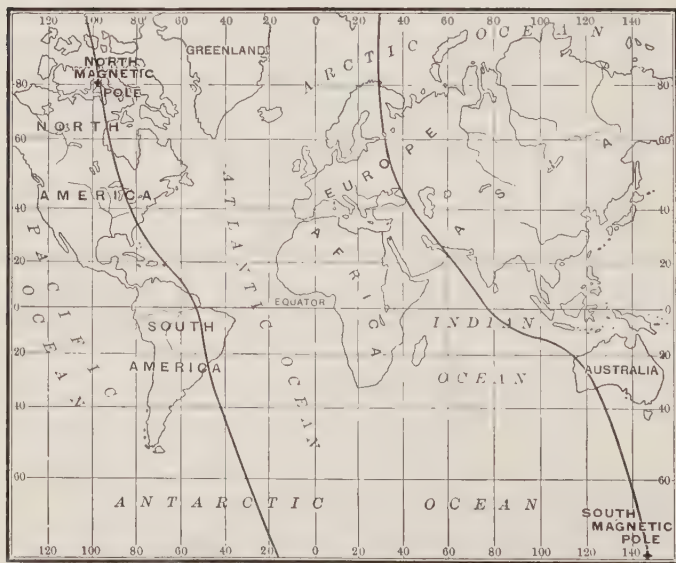

FIGURE 342.—MAP SHOWING THE LOCATION OF THE MAGNETIC POLES AND THE TWO AGONIC LINES.
**221. Magnetic Poles of the Earth.** — If a dipping needle is moved above a long bar magnet in the direction of the length of the magnet, it will stand vertical when above the poles. By using a horizontal needle as a guide for direction of travel and a dipping needle to determine where to stop, the magnetic poles of the earth have been located. The pole in the northern hemisphere is  $73^{\circ} 31'$  N. latitude,  $98^{\circ} 48'$  W. longitude. It was first located by Ross in 1831 and redetermined by Amundsen in 1906. The pole in the Antarctic was not found until 1909, when Shackleton located it as  $72^{\circ} 25'$  S. latitude,  $155^{\circ} 16'$  E. longitude (Figure 342). It will be seen that these poles lie only a little way within the Arctic and Antarctic circles respectively, so that Peary's compass at the north pole must have pointed south.